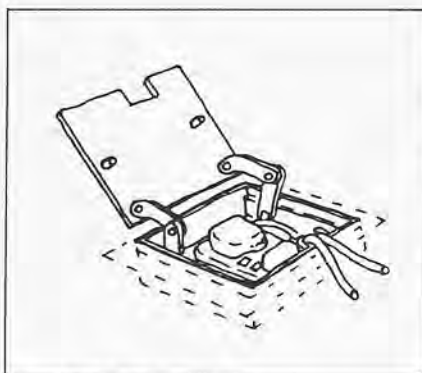

Fig. 14: Floor box outlet
*Floor box outlets.* If the floor is not of quality, a concealed floor box located near the skirting can house a power socket, telephone outlet or TV aerial outlet, but avoid the need to chase a wall or cut panelling (fig. 14).